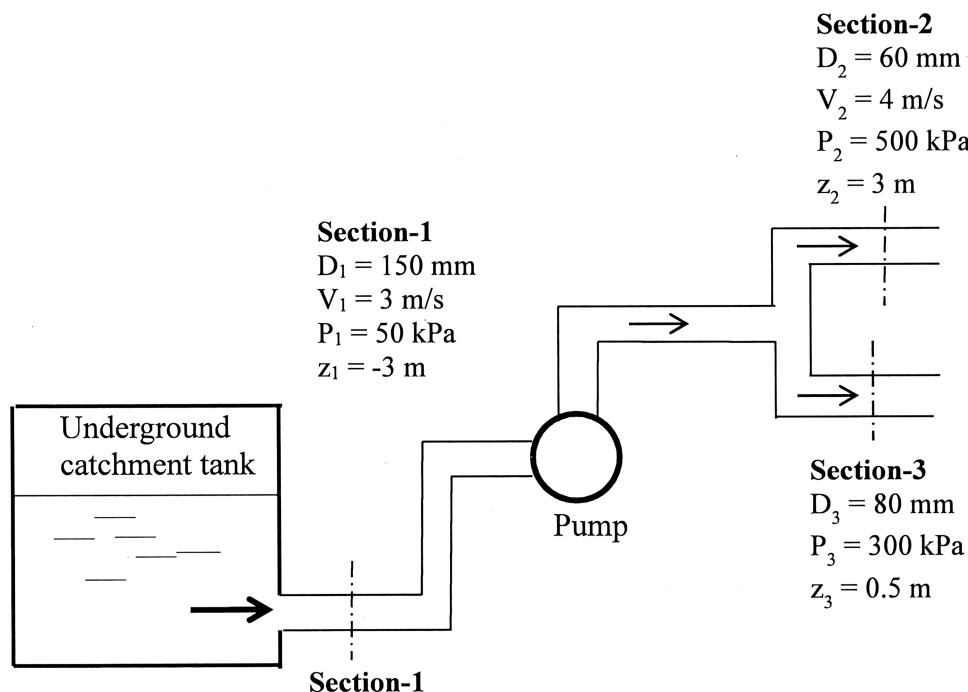

Figure 2
- 2 (a) Water is to be pumped out from an underground catchment tank by a pump via a parallel piping system as in Figure 2. At section 1, 2 and 3 in the piping system, the following information are given: